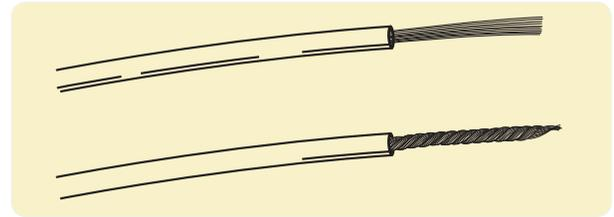

Figure 8.7 Twisting multi-strand wires together
- 2 If the wire type is multi-strand, twist the strands together as shown in Figure 8.7.